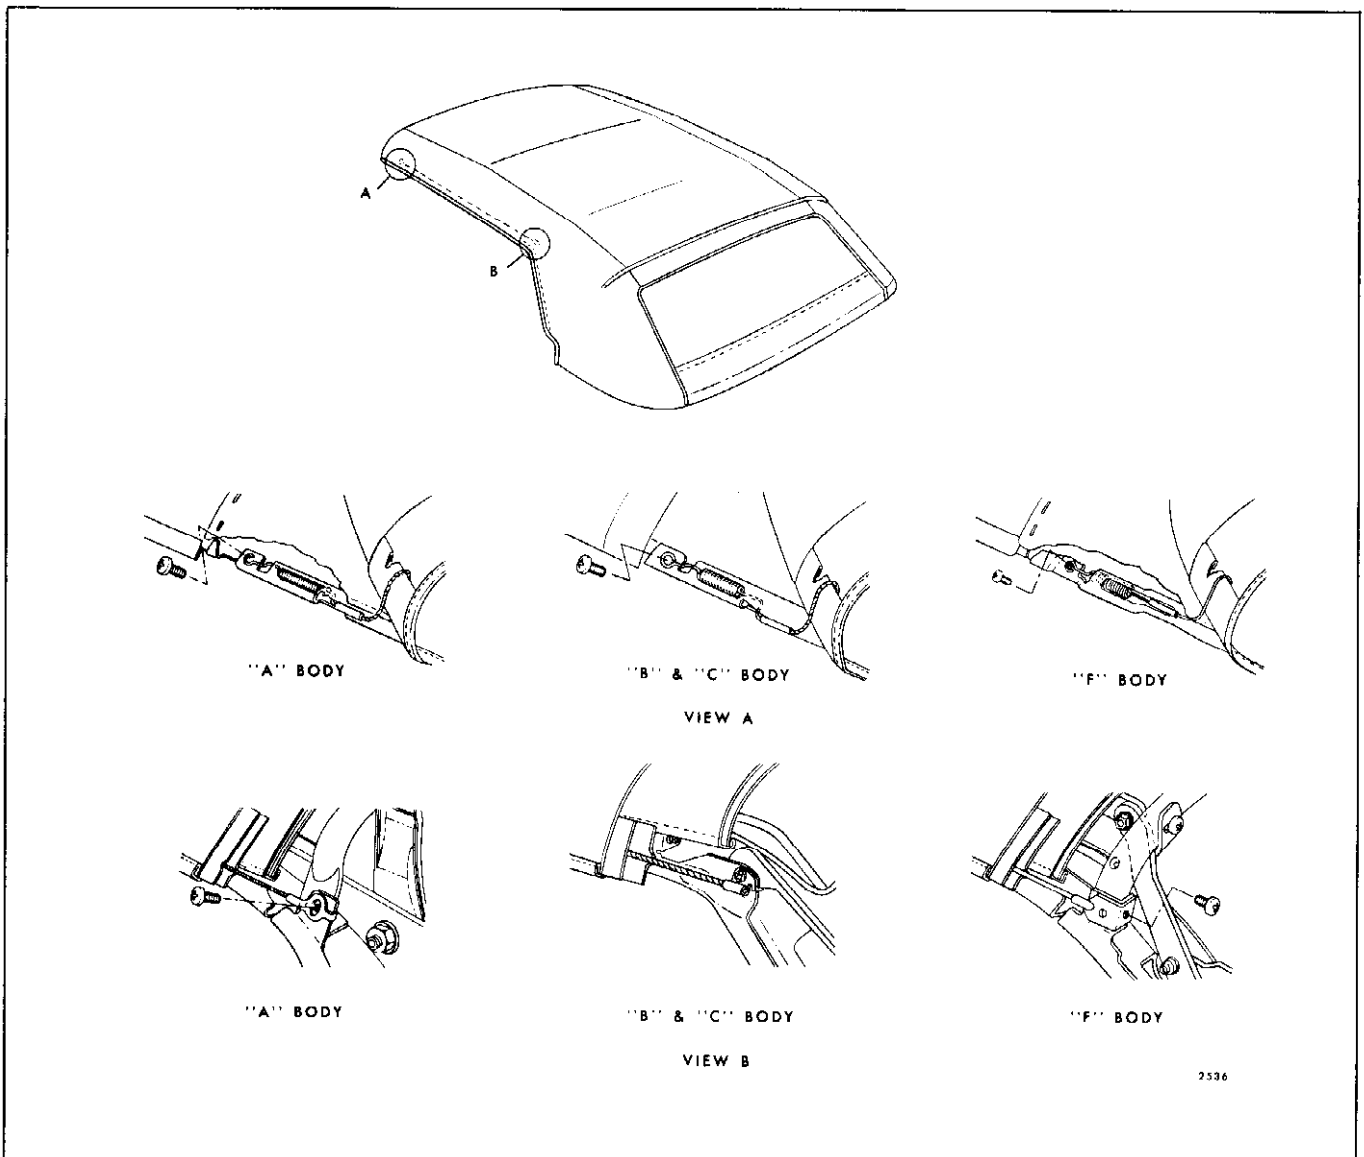

Fig. 13-31 — Convertible Top Material Hold Down Cable
12. At right and left side roof front and rear rails, remove hold-down cable front and rear attaching screws. (See Views "A and B" in Fig. 13-31).
14. After cables have been inserted in hold-down pockets in top material, securely install front and rear cable attaching brackets to side roof front and rear rails (Fig. 13-31).